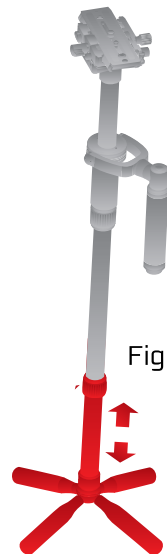

Fig. 6
- Lower the counterweights by extending the center column. (Fig. 6)